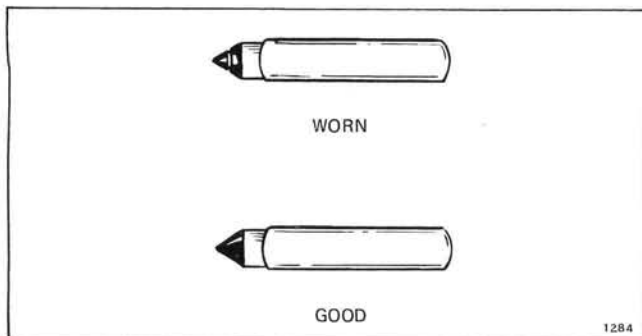

Figure 3-15. Inlet Needle Valve Wear
b. Inspect the inlet needle valve for grooves, nicks, or scratches. If any are found, replace float valve assembly. See Figure 3-15. Gum or varnish on the needle valve must be removed with OMC Accessory Engine Cleaner. DO NOT attempt to alter the shape of the needle valve.